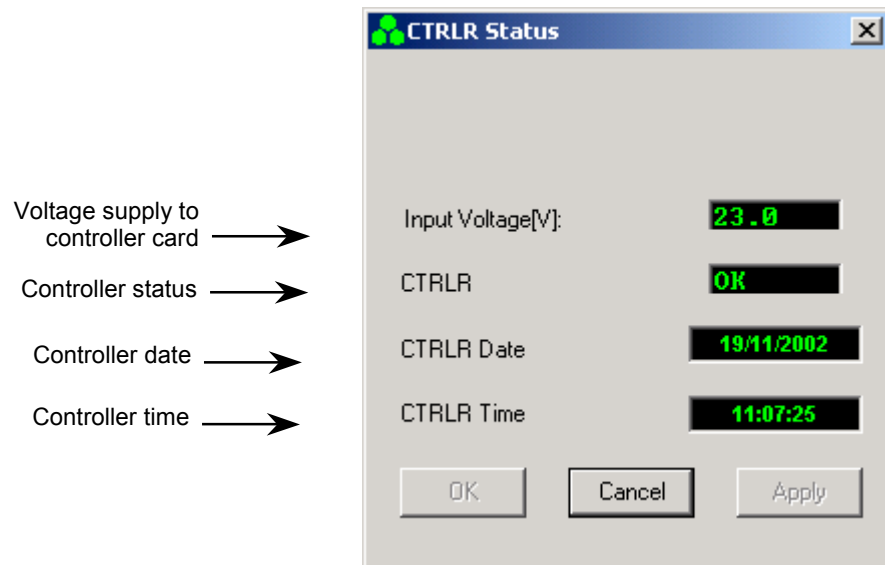

Figure 3-9 CTRLR Status high level
2. Click the ICU Controller button as indicated below. The CTRLLR Status dialog shown in Figure 3-9 appears showing the status of the ICU.